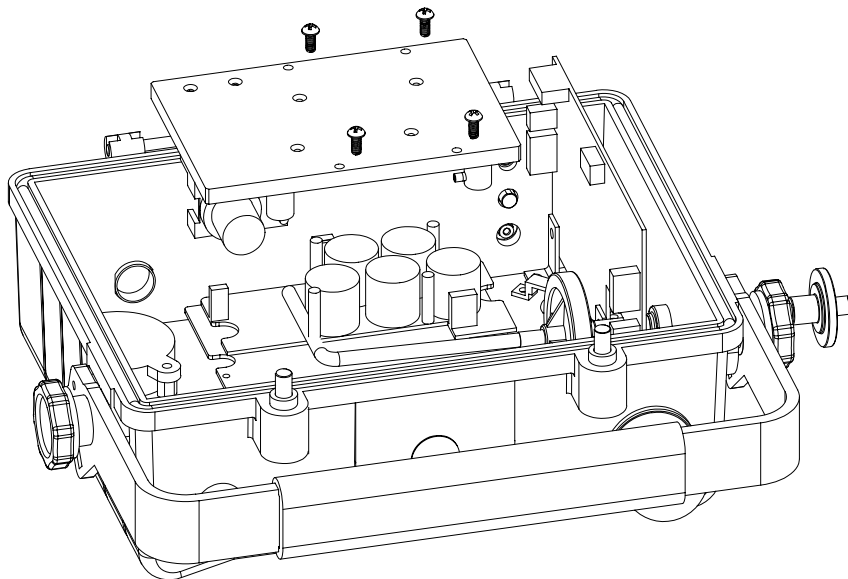

Figure 6-2 Sensor Compartment of AreaRAE
4. Refer to Figures 6-2 and 6-3, carefully unscrew the four No.2 screws that hold down the gas piping plate to the analog PCB and sensors. Remove the gas piping plate.
The sensor module is made of several components and is attached to the lamp housing unit as shown in Figure 6-2.
3. Refer to Figures 6-2 and 6-3; carefully unscrew the four No.2 screws that hold down the gas piping plate to the analog PCB and sensors. Remove the gas piping plate.
9. Refer to Figures 6-2 and 6-3, install the gas piping plate and tighten the four screws to hold down the sensors.